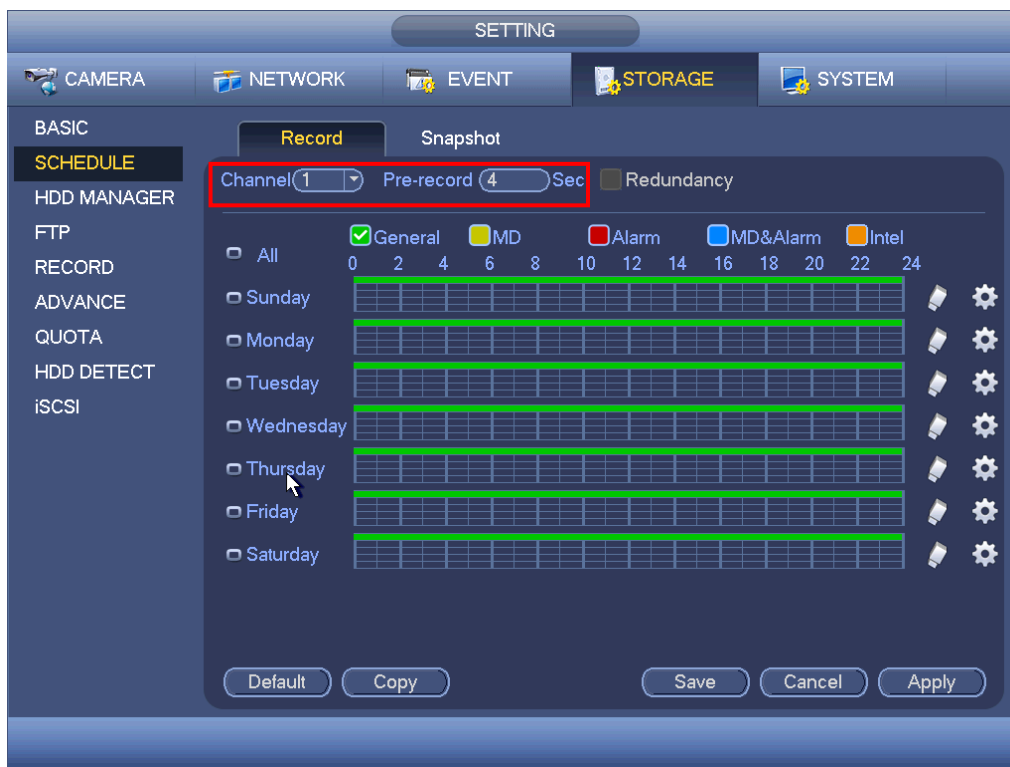

Figure 4-98
- In main menu, from Setting-> Schedule->Snapshot interface, please enable snapshot function. See Figure 4-98.